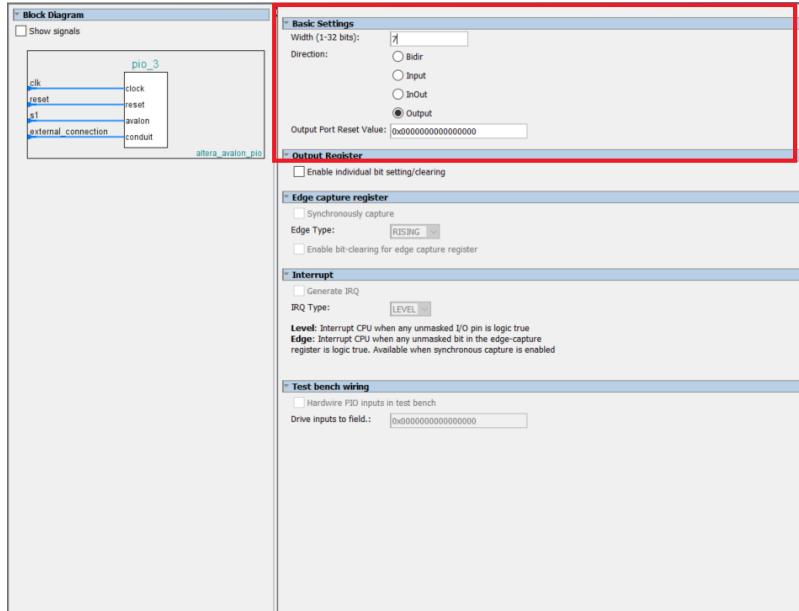

Figure 16: Parallel IO Configuration Panel for Seven-Segment Display Outputs
19. When you have setup your seven segment display output component interface as in Figure 16, click **Finish**.